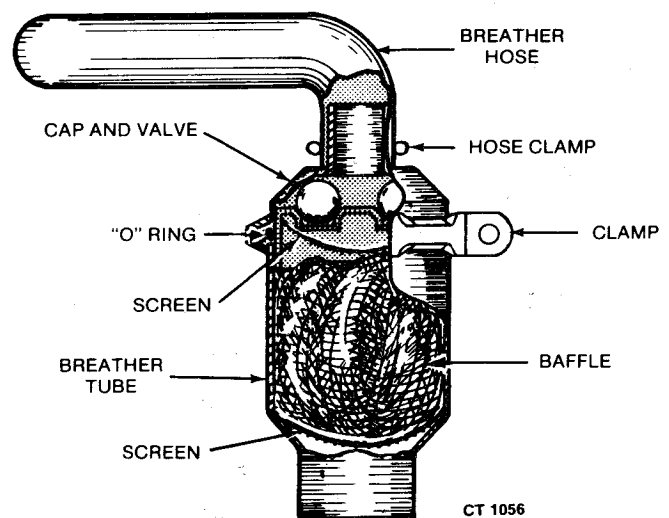

FIGURE 32. CRANKCASE BREATHER FOR NH
**NH Breather:** Remove the cap (see Figure 32) from the crankcase tube and pry the valve out of the cap. Clean the valve in parts cleaning solvent or replace if worn. Pull the baffle out of the breather tube and clean in parts cleaning solvent. Assemble with the perforated disk toward the engine.